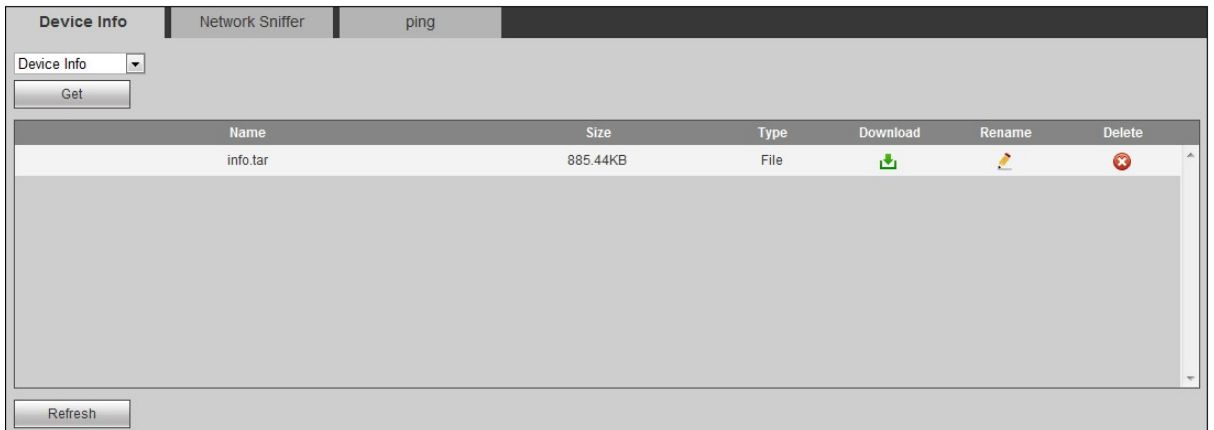

Figure 4-114
Step 2 Select “Device Info” or “Subcard Log” and click “Get”. The system displays corresponding device info or subcard log, as shown in Figure 4-114.